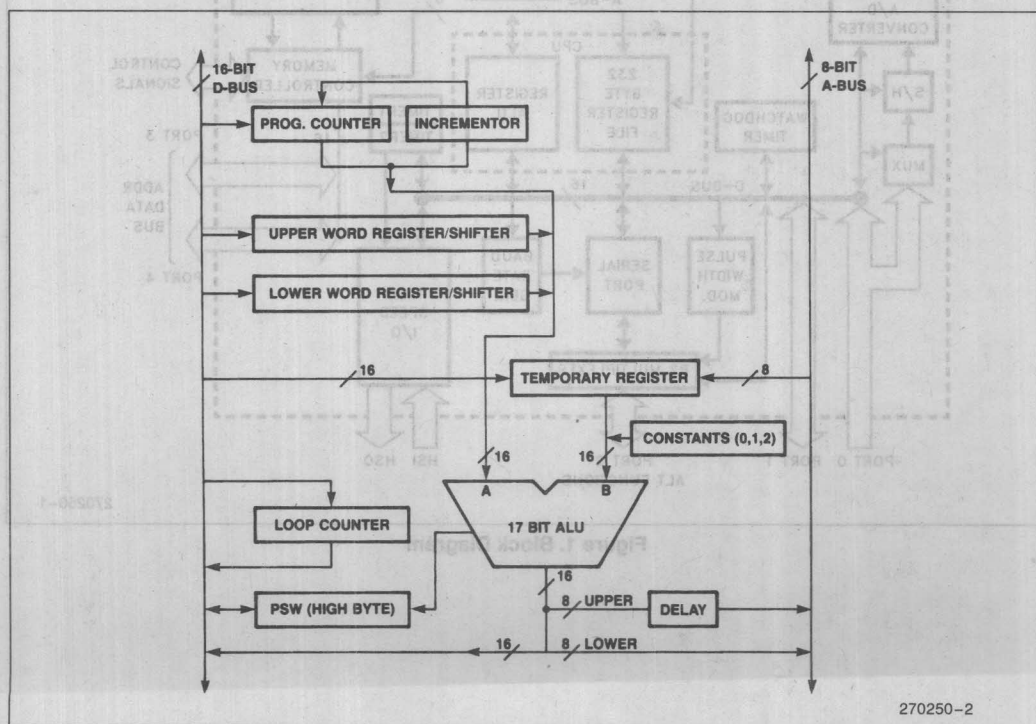

Figure 2. RALU Block Diagram
Most calculations performed by the 8X9X take place in the RALU. The RALU, shown in Figure 2, contains a 17-bit ALU, the Program Status Word (PSW), the Program Counter (PC), a loop counter, and three temporary registers. All of the registers are 16-bits or 17-bits (16 + sign extension) wide. Some of the registers have the ability to perform simple operations to off-load the ALU.
The DELAY shown in Figure 2 is used to convert the 16-bit bus into an 8-bit bus. This is required as all addresses and instructions are carried on the 8-bit A-Bus. Several constants, such as 0, 1 and 2 are stored in the RALU for use in certain calculations. These come in handy when the RALU needs to make a 2's complement number or perform an increment or decrement instruction.